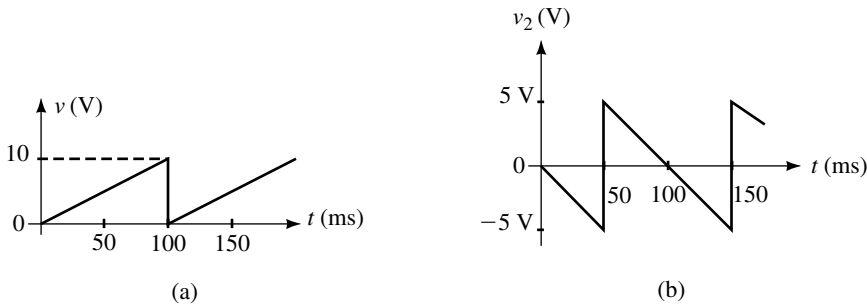

FIGURE 25-60
15. A composite waveform is made up of the two periodic waves shown in Figure 25-60.